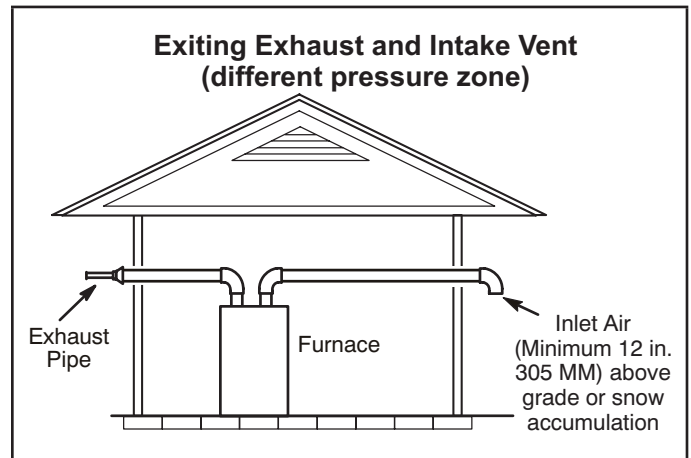
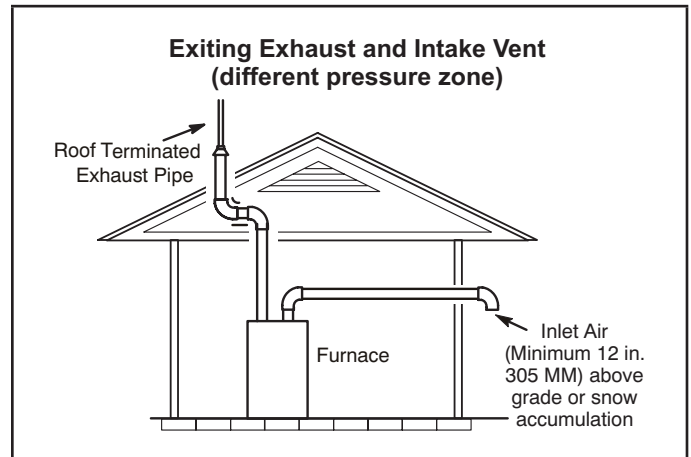

Figure 35
Figure 36
- 1 - Intake and exhaust terminations are not required to be in the same pressure zone. You may exit the intake on one side of the structure and the exhaust on another side (Figure 35). You may exit the exhaust out the roof and the intake out the side of the structure (Figure 36).